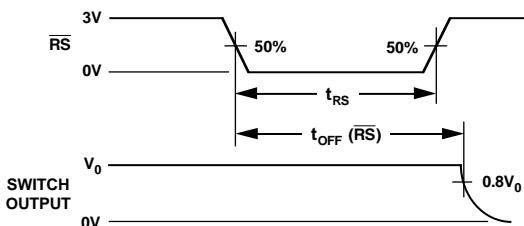

Figure 2.
Figure 2 shows the Reset Pulse Width,  $t_{RS}$ , and the Reset Turn Off Time,  $t_{OFF (RS)}$ .